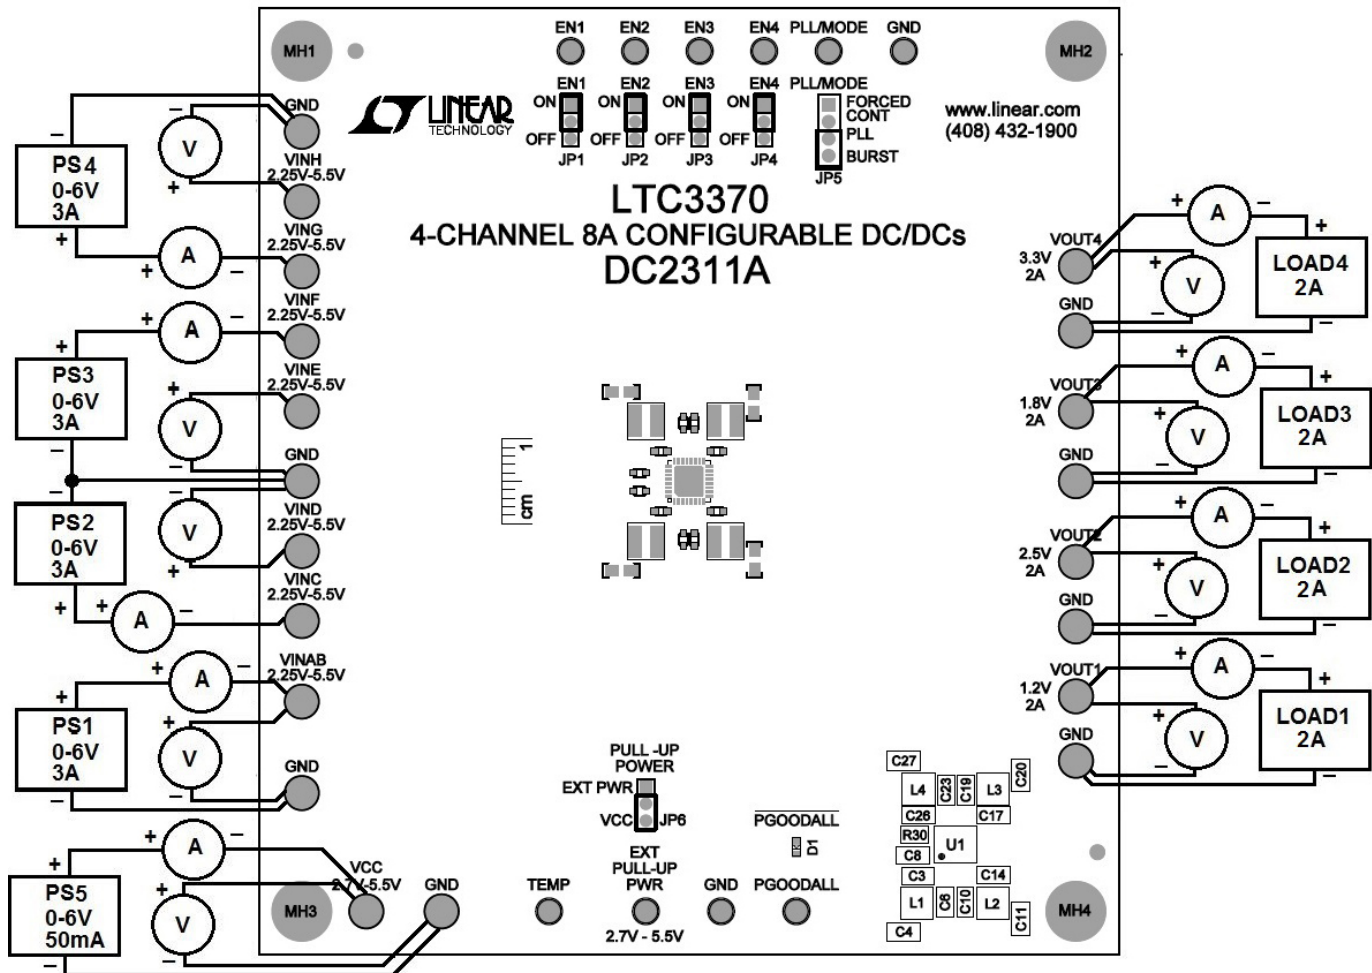
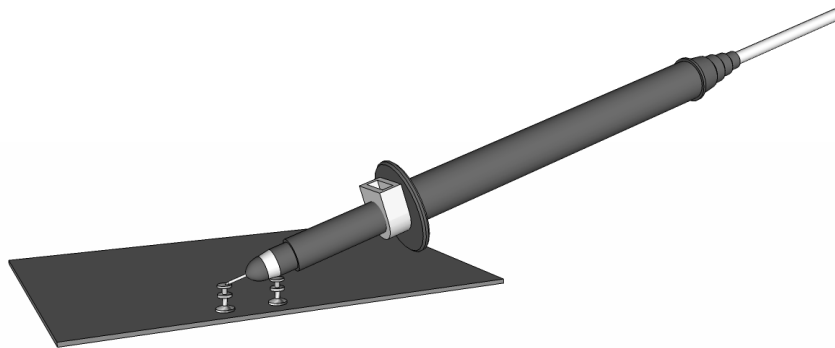

Figure 1. Proper Measurement Equipment Setup
Figure 2. Measuring Input or Output Ripple
The DC2311A is easy to set up to evaluate the performance of the LTC3370. Refer to Figure 1 and Figure 2 for proper measurement equipment setup and follow the evaluation procedure below.
NOTE. When measuring the input or output voltage ripple, care must be taken to avoid a long ground lead on the oscilloscope probe. Measure the input or output voltage ripple by touching the probe tip directly across the  $V_{IN}$  or  $V_{OUT}$  and GND terminals. See Figure 2 for proper scope probe technique.
4. With power off, connect a 0V to 6V, 50mA power supply (PS5) to  $V_{CC}$  input terminal and GND with a series ammeter and a voltmeter as shown in Figure 1.
7. With power off, connect 0V to 6V, 2A power supplies to each input pair (PS1-PS4),  $V_{INAB}$ ,  $V_{INC}/V_{IND}$ ,  $V_{INE}/V_{INF}$ ,  $V_{ING}/V_{INH}$  and GND with a series ammeter and a voltmeter as shown in Figure 1. A single 0V to 6V, 10A supply can be used instead to supply all  $V_{IN}$  inputs and the  $V_{CC}$  input simultaneously.
9. With power off, connect a 0A to 2A load to  $V_{OUT1}$  and GND with a series ammeter and a voltmeter as shown in Figure 1.
10. Slowly increase the load from 0A to 2A and observe the output voltage. The output ripple may also be observed using an oscilloscope with the probe connected as shown in Figure 2.